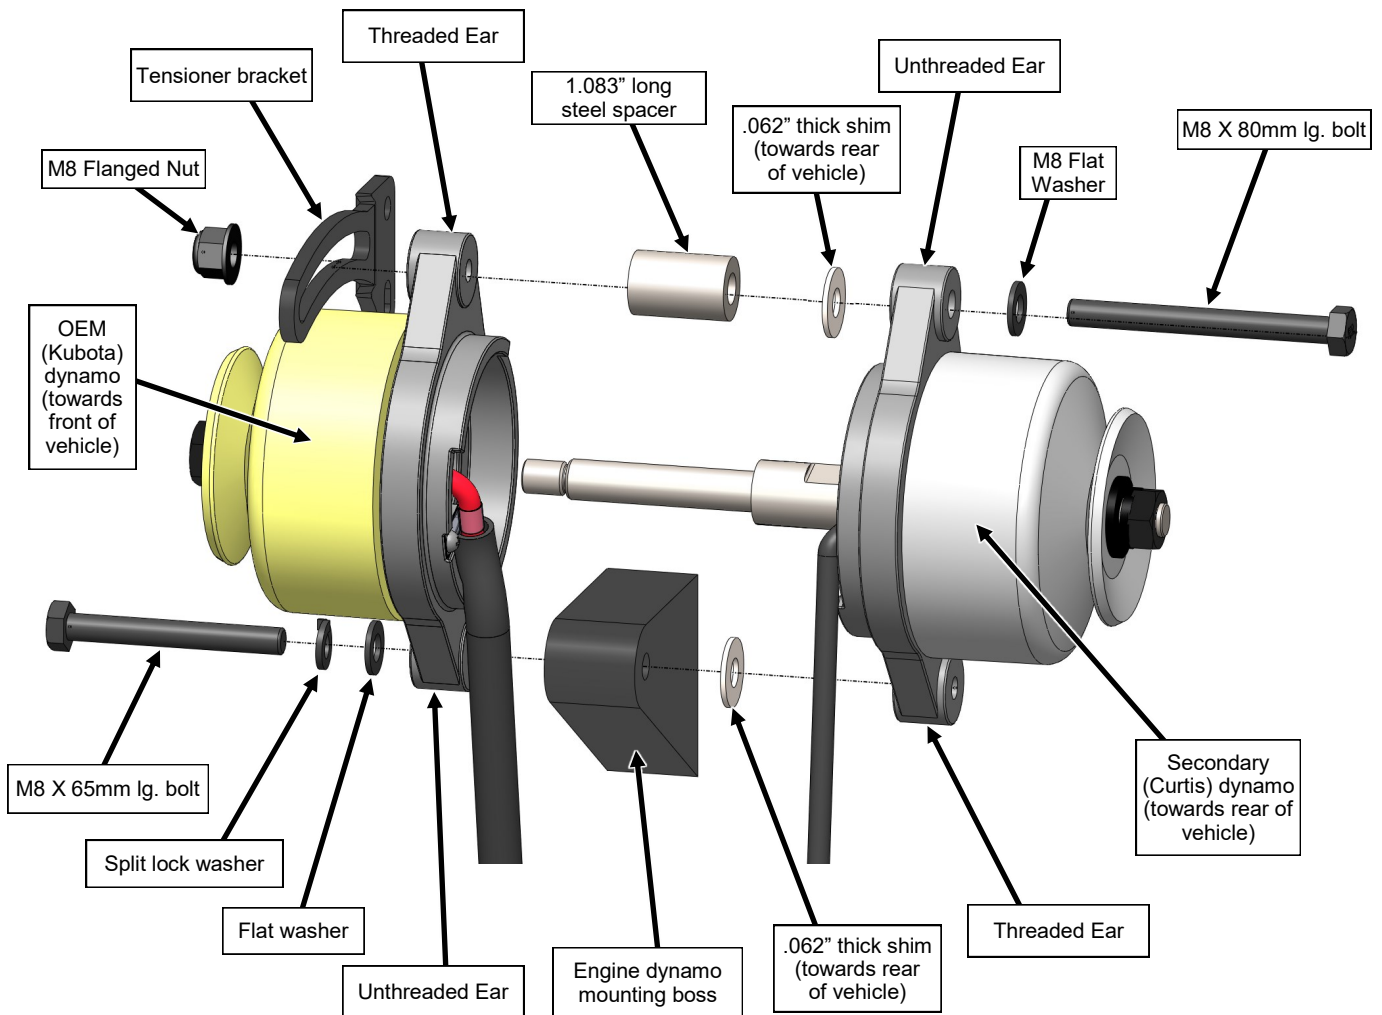

Fig. 2.9 (Double Dynamo Exploded View)
2.9 Verify all components are in correct positions per the fig. 2.9 exploded view below. Re-install the OEM belt onto the dynamo and tension to OEM specifications. **NOTE: When fully tightening the M8 flanged locknut, you must use a wrench on the head of the bolt to prevent it from unthreading from the OEM dynamo mounting ear.** Tighten the flanged nut on the top bolt at this time. Tighten the lower pivot bolt last.